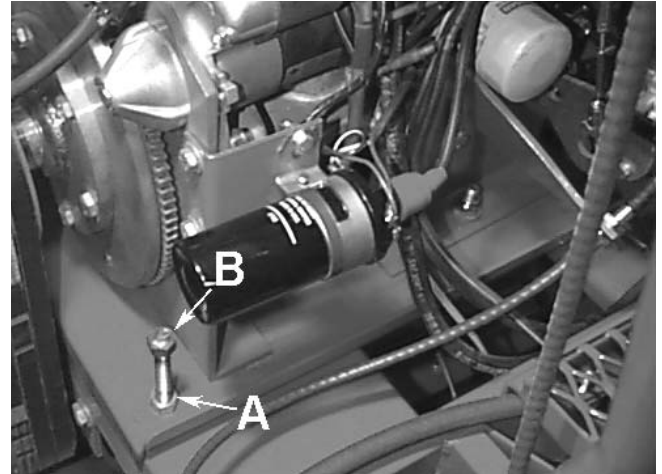

FIG. 1
1. Loosen the nuts(A) in Fig. 1.